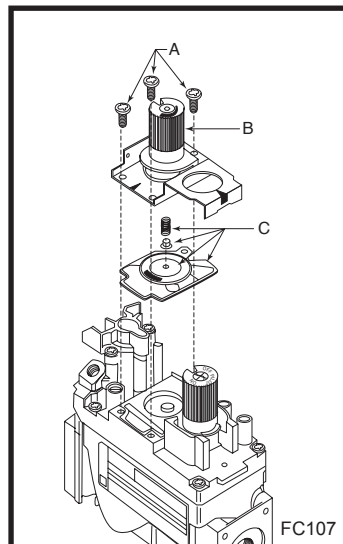

Fig. 50 Remove mounting screws, pressure regulator tower and spring and diaphragm assembly.
1. Using the TORX T20 bit, remove and discard the three (3) pressure regulator mounting screws (A), pressure regulator tower (B) and the spring and diaphragm assembly (C). (Fig. 50)
2. Insure the rubber gasket (D) is properly positioned and install the new HI/LO pressure regulator assembly to the valve using the new screws (E) supplied with the kit.